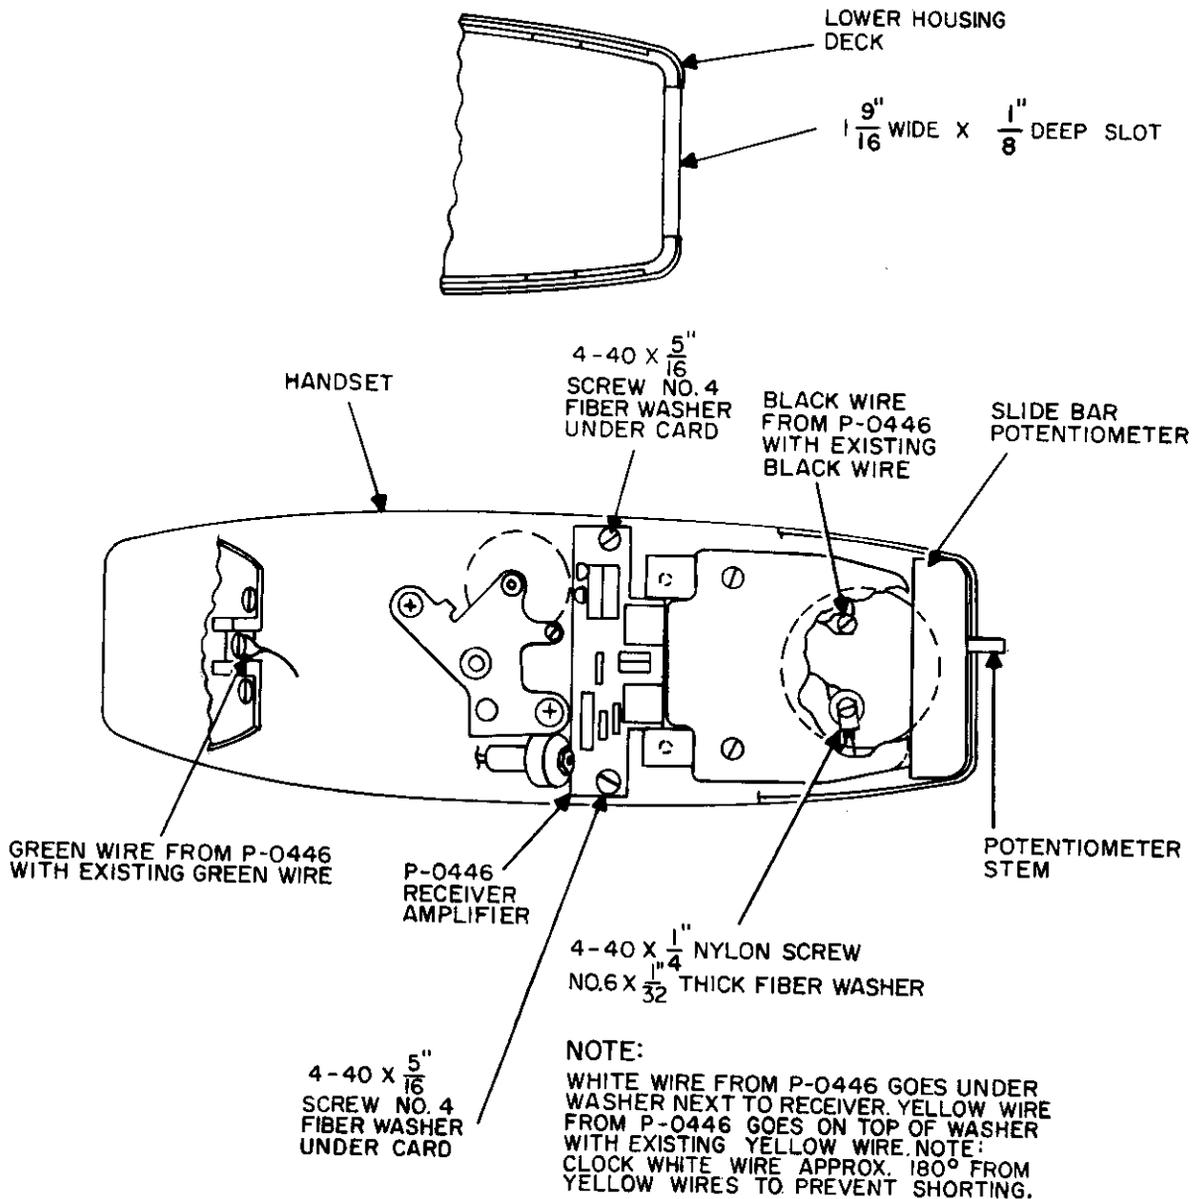

Figure 4. Installation - Receiver Amplifier.
bringing the telephone set to the customer's premises, or on the customer's premises. Use the following procedures to install the receiver amplifier (Figure 4):
- (1) Remove the handset shell.
- (2) Cut a slot in the receiver end of the lower housing to accommodate the protruding stem of the receiver amplifier slide bar potentiometer. The slot should be 1-9/16 inches wide and one-eighth inch deep.
- (3) Remove the two transmission unit mounting screws and lift the transmission unit up to access the receiver terminal screws.
- (4) Remove the two dial mounting bracket screws. Place the number 4 fiber washers and the printed circuit card of the receiver amplifier on the dial mounting bracket, and fasten with the two 4-40 x 5/16 inch screws as shown in Figure 4.